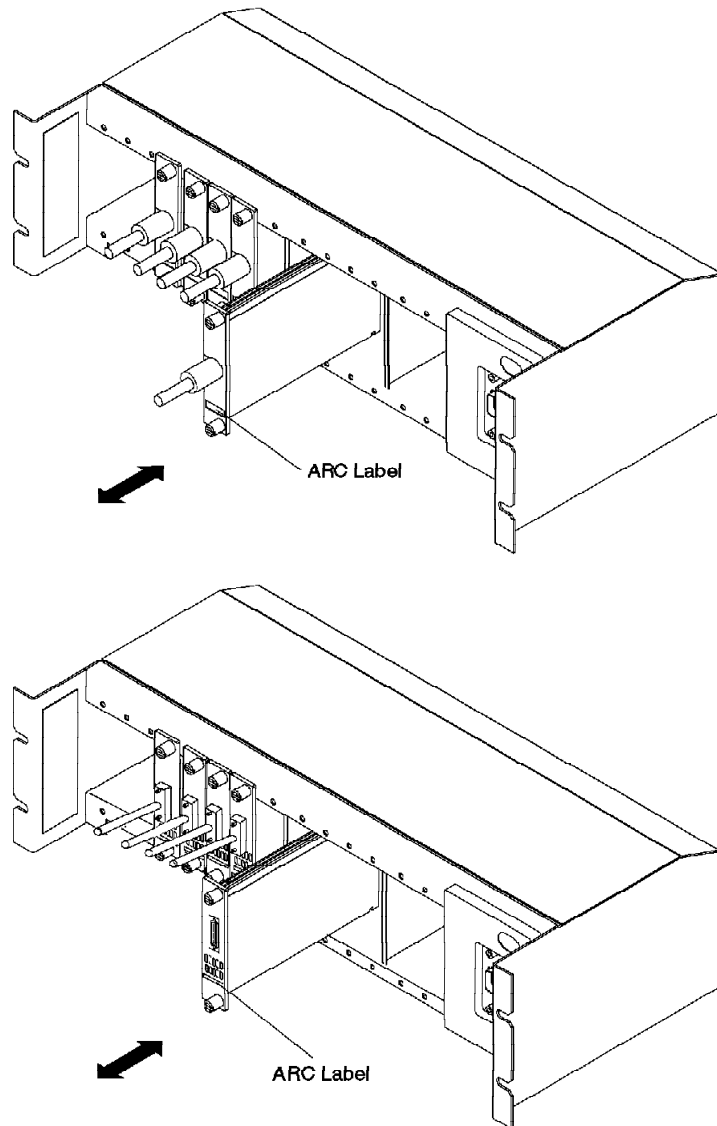

Figure 7-13. ARC Assembly A (top) and ARC Assembly B (bottom) in an LCB
- Step 7** Insert the ARC, pushing it until the front ARC touches the LCB, then tighten the two retaining screws (see Figure 7-13 on page 7-20).